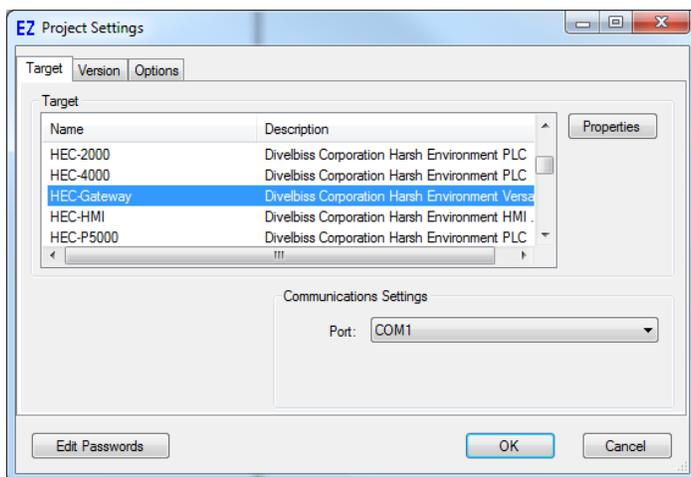

Figure 1-1 - Project Settings Window
1. In P-Series EZ LADDER Toolkit, from the File Menu at the top, click **PROJECT** then **SETTINGS**. This will open the **Project Settings** Window. Select **HEC-Gateway** as the target from the choices. Refer to Figure 1-1. Verify the correct computer COM Port for communication to the HEC-Gateway target is selected.